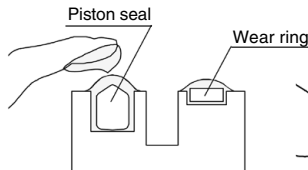
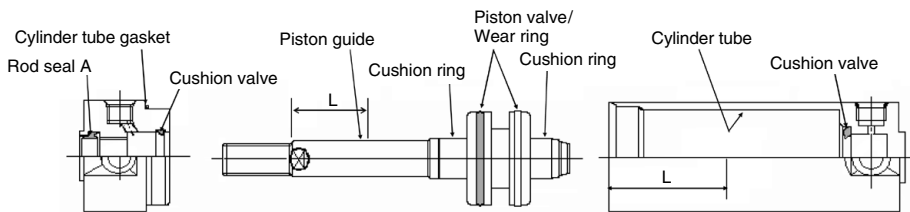

Fig. 7 Piston seal
Fig. 9 Grease application points  $L = \frac{\text{STROKE}}{2}$  or 100 mm and more
- ③⑨ Piston seal: Rub grease into the seal groove and outer circumference of the seal. (Fig. 7)
- ③⑩ Cylinder tube gasket: Lightly apply grease.
- Cylinder component parts: Apply grease to each component parts of the cylinder in Fig. 9.